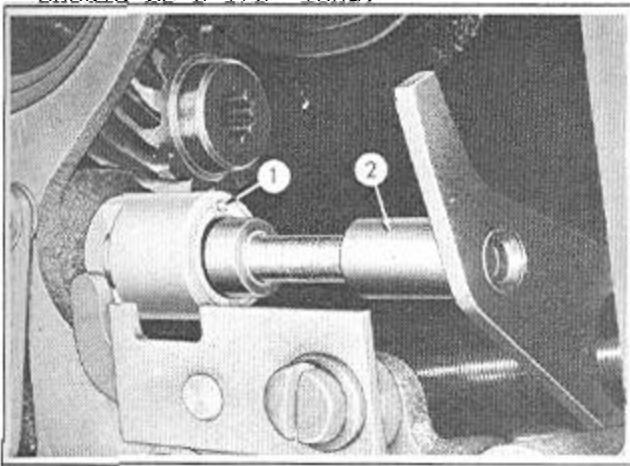

FIGURE 38
2. Check governor valve (2), Figure 38, for free operation in the valve sleeve and that the hydraulic detent piston (1) is in place.
2. Turn the governor (2), Figure 38, so that the end of the fork is out of the notch of the direct drive rocker arm retaining plate; then pull the valve out of the sleeve.